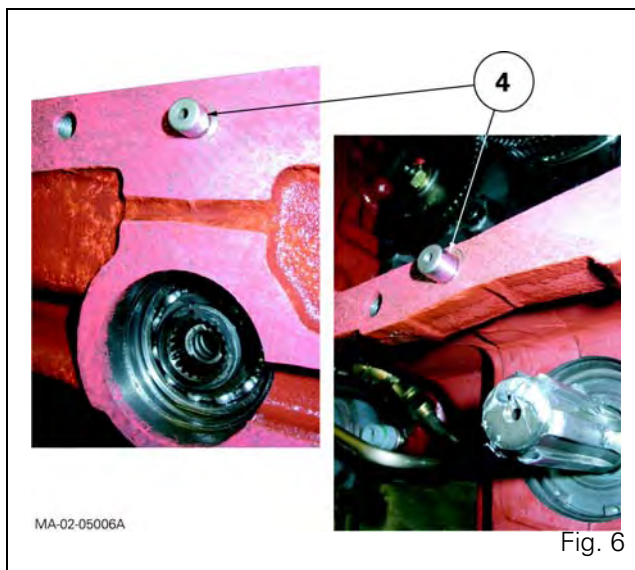

Fig. 6
33. Check the presence of dowels (4) (Fig. 6).